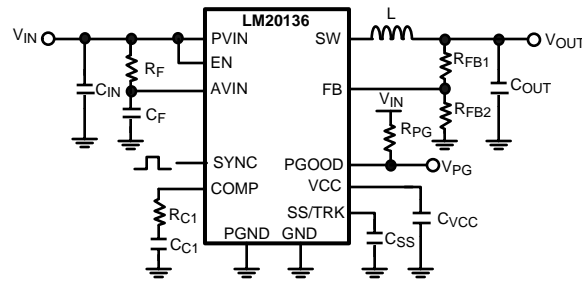

Figure 30. Typical Application Circuit
The LM20136 switching regulator features all of the functions necessary to implement an efficient low voltage buck regulator using a minimum number of external components. This easy to use regulator features two integrated switches and is capable of supplying up to 6A of continuous output current. The regulator utilizes peak current mode control with nonlinear slope compensation to optimize stability and transient response over the entire output voltage range. Peak current mode control also provides inherent line feed-forward, cycle-by-cycle current limiting and easy loop compensation. The internal oscillator can synchronize up to 1.5 MHz minimizing the inductor size while still achieving efficiencies up to 96%. The precision internal voltage reference allows the output to be set as low as 0.8V. Fault protection features include: current limiting, thermal shutdown, over voltage protection, and shutdown capability. The device is available in the HTSSOP package featuring an exposed pad to aid thermal dissipation. The LM20136 can be used in numerous applications to efficiently step-down from a 5V or 3.3V bus. The typical application circuit for the LM20136 is shown in Figure 30 in the design guide.
This section walks the designer through the steps necessary to select the external components to build a fully functional power supply. As with any DC-DC converter numerous trade-offs are possible to optimize the design for efficiency, size, or performance. These will be taken into account and highlighted throughout this discussion. To facilitate component selection discussions the circuit shown in Figure 30 below may be used as a reference. Unless otherwise indicated all formulas assume units of Amps (A) for current, Farads (F) for capacitance, Henries (H) for inductance and Volts (V) for voltage.
To prevent high frequency noise spikes from disturbing the sensitive analog circuitry connected to the AVIN and AGND pins, a high frequency RC filter is required between PVIN and AVIN. These components are shown in Figure 30 as C_F and R_F . The required value for R_F is 1Ω . C_F must be used. Recommended value of C_F is $1.0\mu F$. The filter capacitor, C_F should be placed as close to the IC as possible with a direct connection from AVIN to AGND. A good quality X5R or X7R ceramic capacitor should be used for C_F .